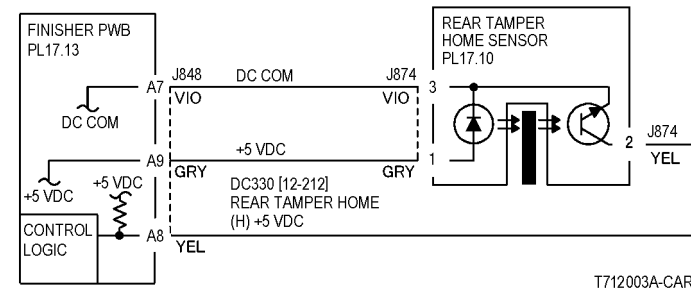

Figure 2 12-253 RAP Circuit Diagram - Rear Tamper Home Sensor
Press **Stop**. Check the circuit of the Rear Tamper Home Sensor (**Figure 2**). Refer to the **OF 99-2 RAP** for troubleshooting procedure.
- Ensure that the connectors shown in the circuit diagrams (**Figure 2**, **Figure 3**) are securely connected and that the wires are not damaged.